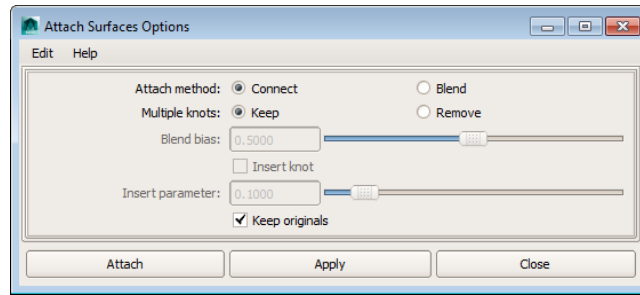

Figure 3-124 The *Attach Surfaces Options* dialog box
1. Select the **Mesh** layer in the **Layer Editor** and choose the **V** button corresponding to it; the objects in the **Mesh** layer are visible in the persp viewport. Next, choose the **V** button corresponding to **Wireframe** layer; the objects in the **Wireframe** layer will not be visible in the persp viewport. Select both parts of the roof. Now, choose **Edit NURBS > Attach Surfaces > Option Box** from the menubar; the **Attach Surfaces Options** dialog box is displayed in the viewport. Set the required parameters in this dialog box, as shown in Figure 3-124, and then choose the **Attach** button; both parts of the roof get attached.